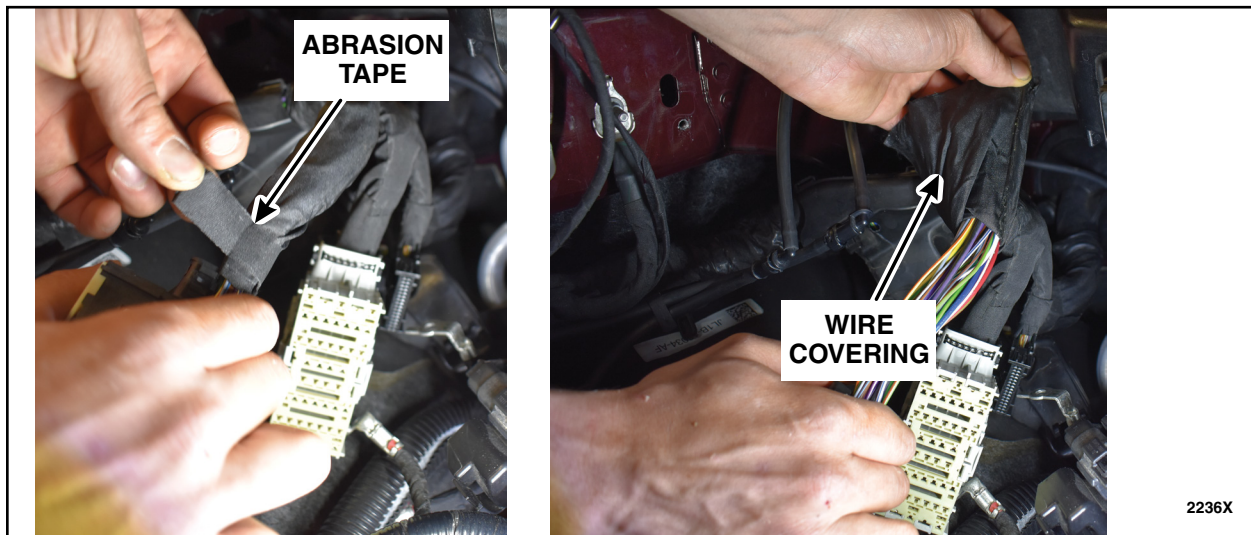

FIGURE 30
35. Remove abrasion tape from the harness and peel back the covering about 300mm. See Figure 30.